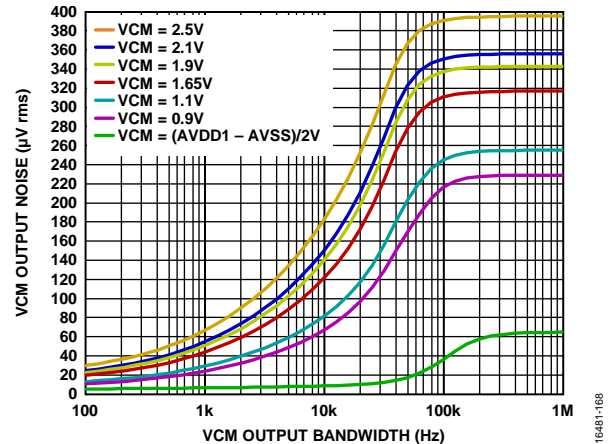

Figure 66. VCM Output Noise vs. VCM Output Bandwidth
Figure 66 is a simulation of the VCM noise for each VCM setting, plotted over a bandwidth of 100 Hz to 1 MHz. An external resistor capacitor (RC) filter is required to set the bandwidth to meet the VCM noise requirement. For example, a VCM output of 2.5 V has 180 μV rms of noise (see Figure 66). If the bandwidth is limited to 1 kHz, this noise can be reduced to approximately 65 μV rms (see Figure 66).